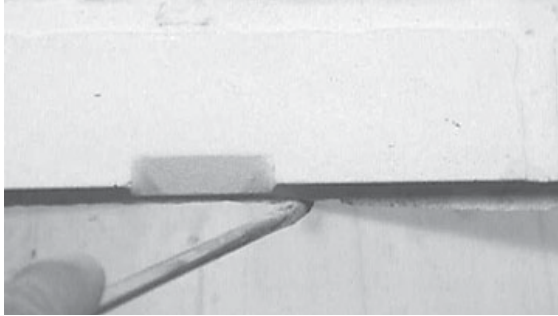

Figure 7.1 Scrape Away Rough Edges
**Note:** Before installing refractory, be sure all back edges of each piece are smooth to ensure proper fit. Scrape away excess with a regular screwdriver. See Figure 7.1.